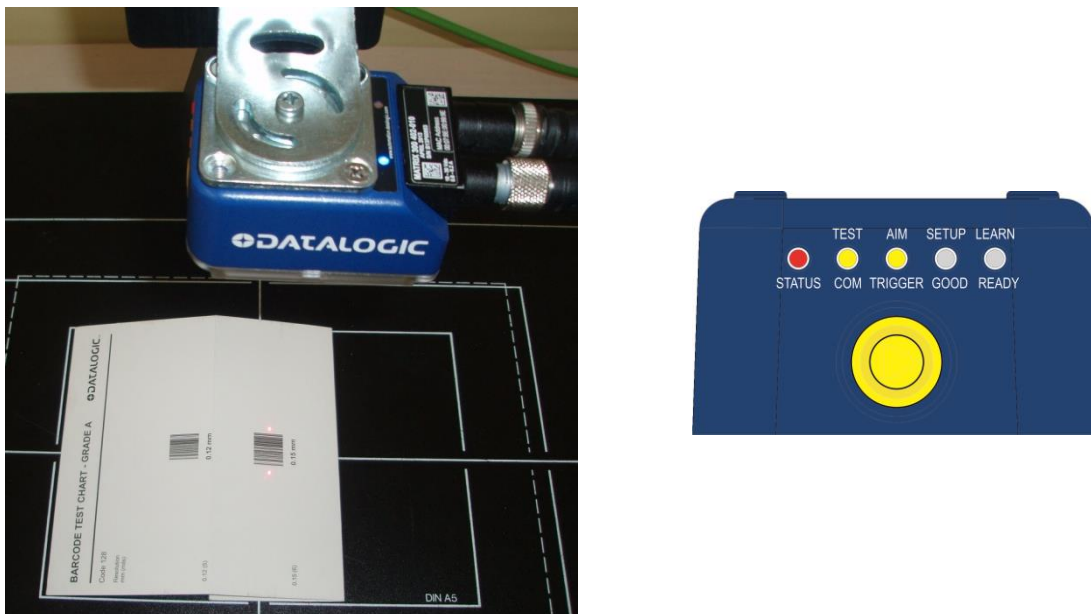

Figure 4 – X-PRESS™ Interface: Aim/Autofocus Function
4. Release the button to enter the Aim function. The laser pointers turn on, and the Autofocus procedure begins, see Figure 4. The Aim LED will blink until the procedure is completed.